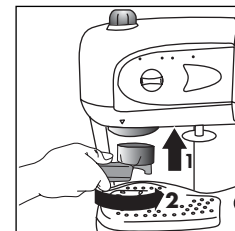

fig. 10
2. Attach the empty filter holder (without coffee) to the machine by positioning it under the boiler outlet with the handle towards the left (fig. 10). Push upwards and at the same time turn the handle as far right as possible. It does not matter if the handle is not centrally aligned with the machine, as long as the filter holder is firmly attached to the appliance.
4. Remove any excess coffee from the rim of the filter holder. Attach the filter holder to the machine by positioning the handle to the left of the boiler outlet, then pushing upwards and turning the handle to the right (as in preheating the machine fig. 10).